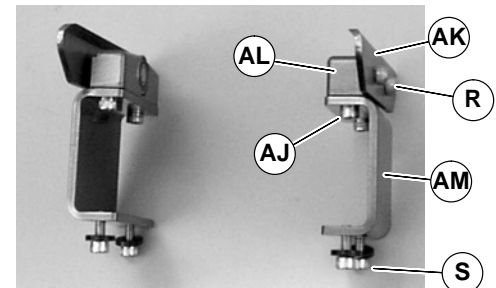

Figure 24
1. Gather components (Figure 24).